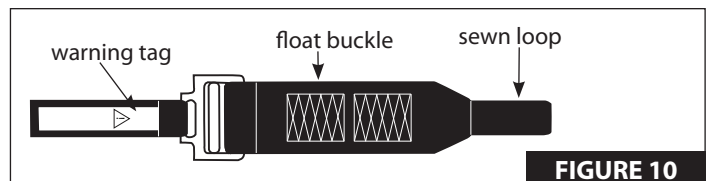

FIGURE 10
- Hold float buckle so warning tag faces upward. **SEE FIGURE 10.**